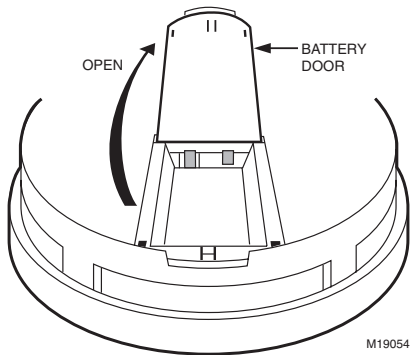

Fig. 5. Installing battery.
5. Remove and reinstall the battery in the correct (+/-) orientation as shown on the inside of the battery door. (After installing the battery, close the battery door securely.) See Fig. 5.